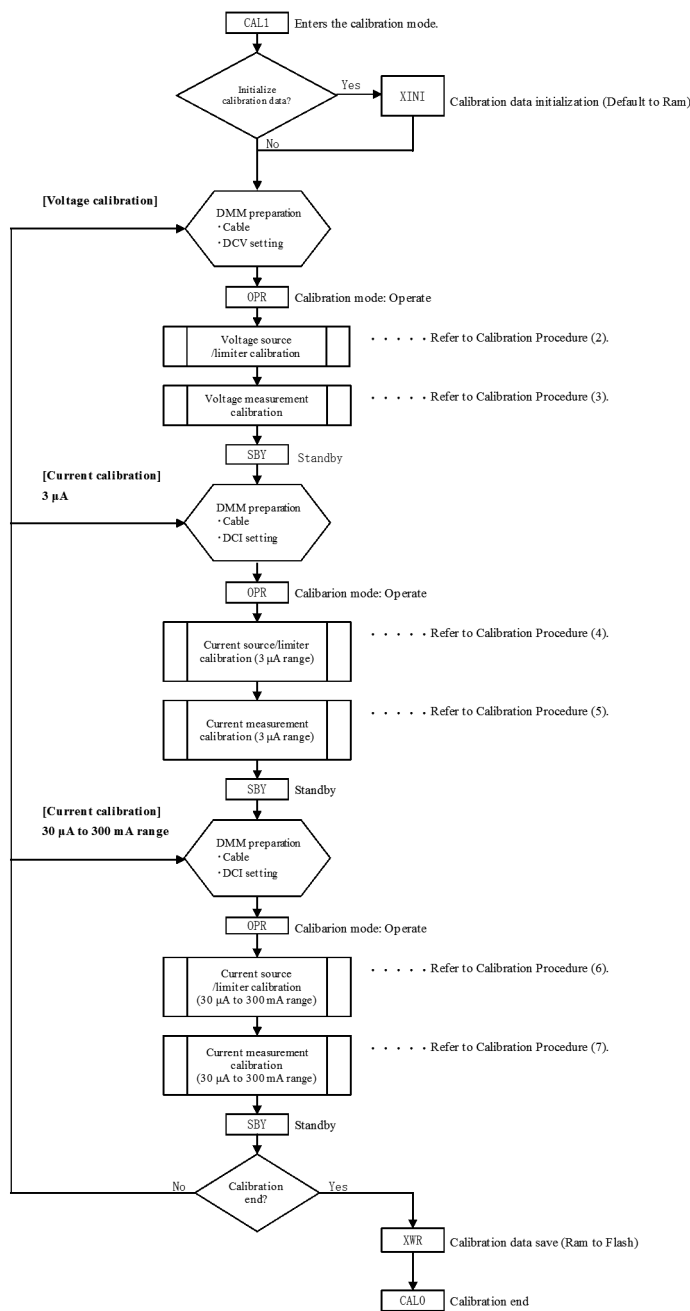
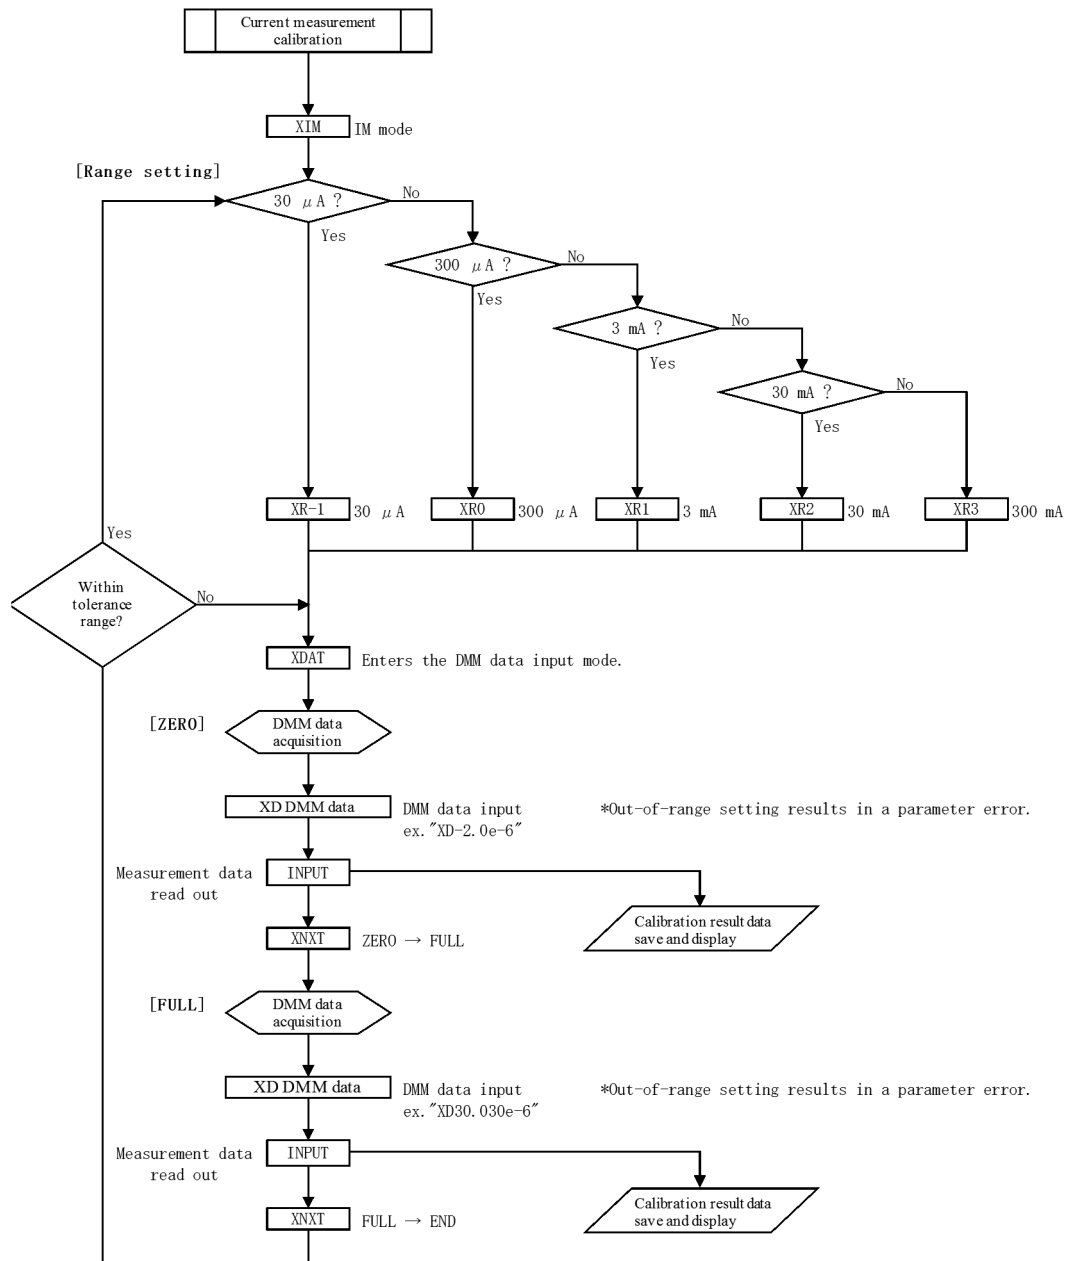

Figure 8-2 Calibration Procedure (1)
Figure 8-8 Calibration Procedure (7)
The 6247G/6247C is calibrated by using the remote commands through GPIB, USB or RS-232. Figure 8-2 to Figure 8-8 shows the calibration procedures. For more information on the remote commands, refer to the calibration parameters described in Section 6.7.4, "Remote Command List"
The overall procedure of calibrations is described by using an example of voltage calibration according to Figure 8-2 Calibration Procedure (1).